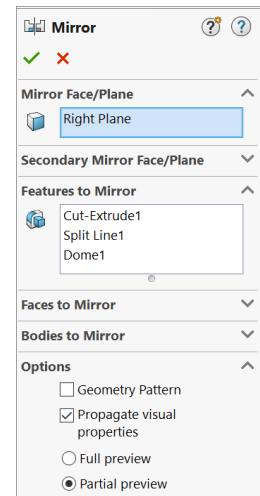

Fig. 23
Step 3. In the Mirror Property Manager click **OK**, **Fig. 23**.